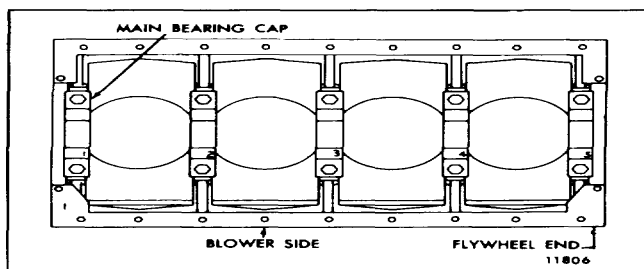

Fig. 18-Cylinder Block Markings
bearing cap is always located at the end opposite the flywheel end of the cylinder block Fig. 18), regardless of engine rotation or accessory arrangement. As originally manufactured, the main bearing caps are installed with the numbered side facing the blower side of the engine. Machining of the cylinder block and main bearing caps is such that the mating parts are "offset" to prevent installation of the bearing caps 180° from their correct position. However, if an engine has been converted for a new application and the cylinder and bearing numbering sequence has been reversed, the bearing caps must be reinstalled in the original positions regardless if the block and bearing caps have or have not been re-numbered.
2. If a new service replacement block is used, stamp the engine serial number and model number on the pad located in the upper right-hand corner on the blower side of the block. Also stamp the position 1 numbers on the main bearing caps (Fig. 18) and the position of the No. 1 bearing on the oil pan mounting flange of the block.